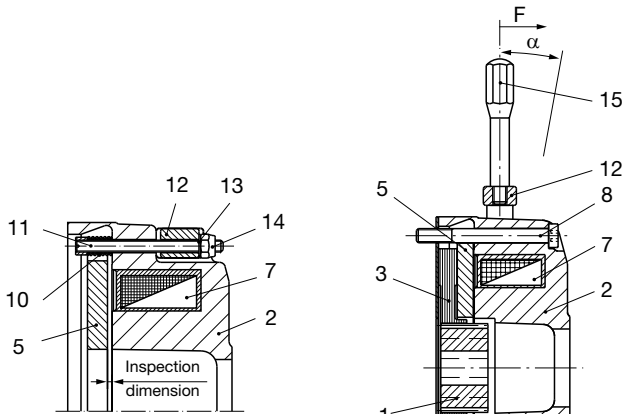

Fig. 1
Installation Procedure (Figs. 1 and 2):
2. Remove the sealing plugs from the hand release bores in the coil carrier (2).
3. Put the thrust springs (10) onto the threaded bolts (11). The threaded bolts (11) are manufacturer-side produced with a key as a tension element and are secured with glue up to Size M60. This connection must not be loosened.
4. Push the threaded bolts (11) with thrust springs (10) from the inside (facing the magnetic coil (7)) into the hand release bores in the coil carrier (2).
5. Push the O-rings (only with sealed hand release, Type 891._ _ _1) over the threaded bolts (11) and insert them into the recesses of the coil carrier (2).
6. Push intermediate plates (only with sealed hand release, Type 891._ _ _1) over the threaded bolts (11).
7. Put the switch bracket (12) in place, put washers (13) onto it and lightly screw on the self-locking hexagon nuts (14).
8. Tighten both hexagon nuts (14) until the armature disk (5) lies evenly on the coil carrier (2).
9. Loosen both hexagon nuts (14) by "Y" turns (see Table 1, page 7), thereby creating an air gap between the armature disk (5) and the coil carrier (2) or the inspection dimension "x" (Fig. 1).